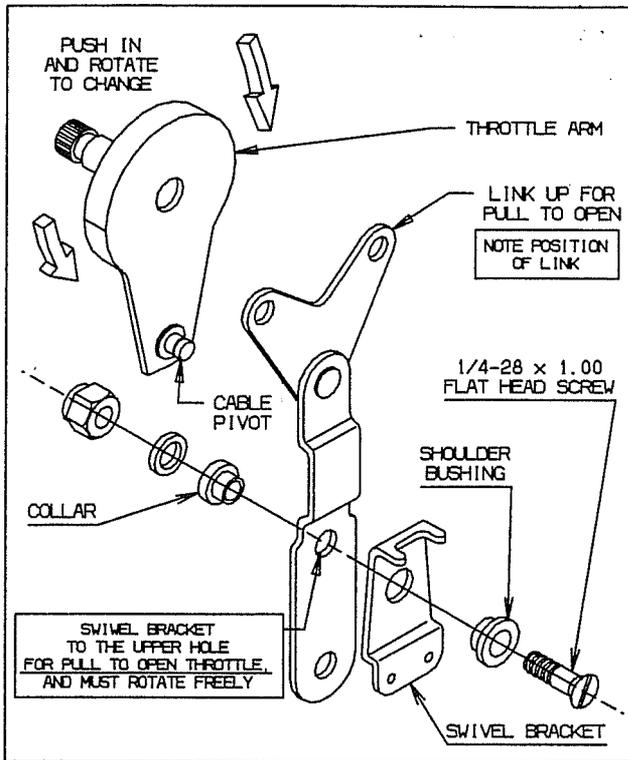

Fig. 4 - "Pull to Open" Setting.
- Check and note the setting of the throttle arm, the link assembly arrangement and the swivel bracket position. (Refer to Figures 4 and 5).